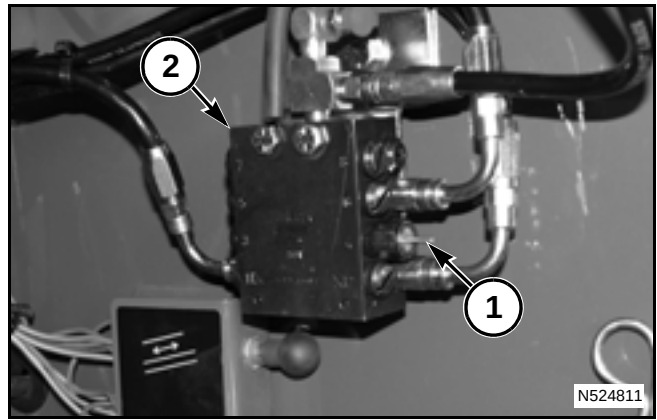

FIG. 73
FIG. 73: To check for proper operation of the auto lube system, check for movement of the plunger (1) in each of the distribution blocks (2) of the auto lube system. The plunger will slowly move in and out with each pump of the auto lube system.